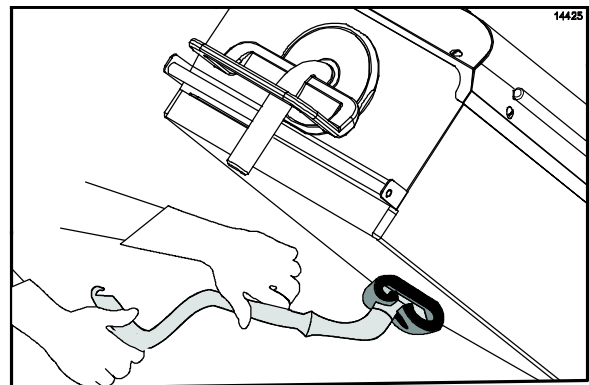

Figure 90
16. Apply the grill cleaner to the platen surfaces, starting from the right platen to the left platen. (See Figure 90.)